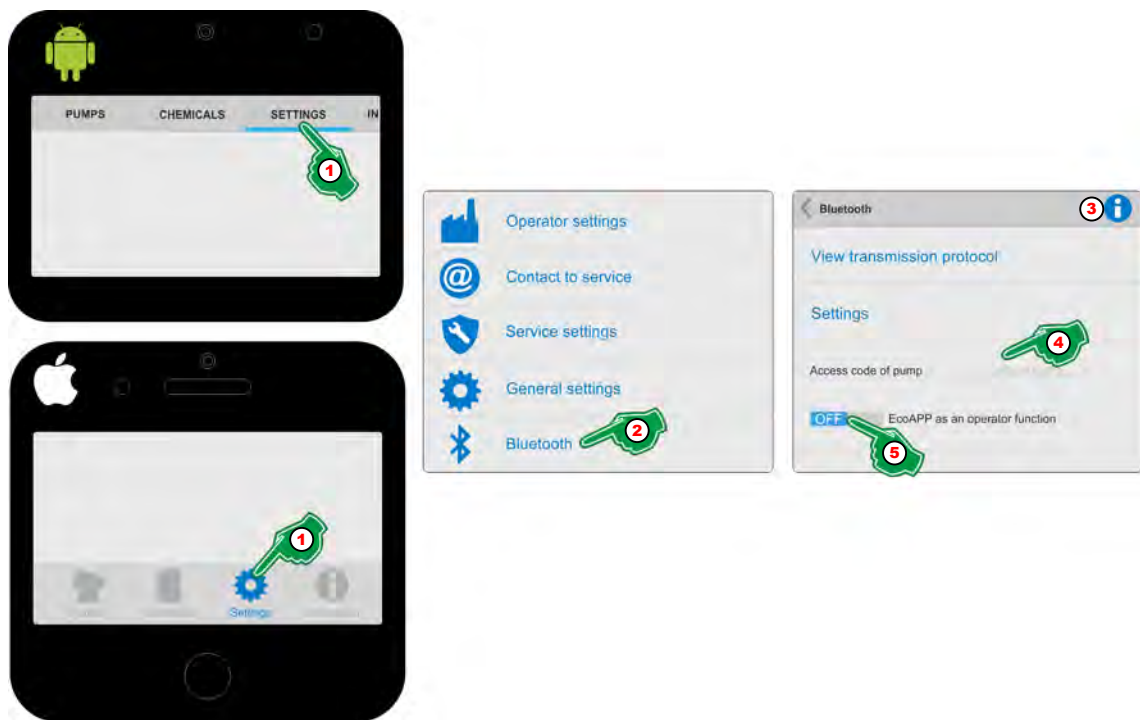

Fig. 58: Select a pump which is protected by an 'access code'
1. ➤ Select [Settings] (Fig. 58, Pos. 1).
2. ➤ Select [Bluetooth]  (Fig. 58, Pos. 2).
3. ➤ With the selection of the [Info]  Symbol (Fig. 58, Pos. 3), the display will be:
*If an [access code] (administrator (A) and/or operator (O)) have been input at the pump, communication is blocked via Bluetooth!
4. ➤ Enter the 'access code' for the pump (Fig. 58, Pos. 4).